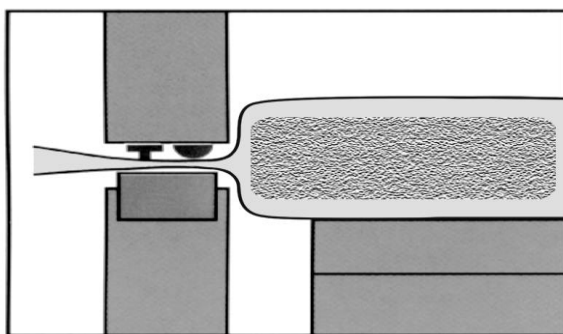

Fig. 2
- Bring the bag containing the product in the vacuum zone. The product inside the bag should be as close to the heat-sealing bar as possible (Fig. 2), to improve the appearance and ensure the tight envelopment of the product.